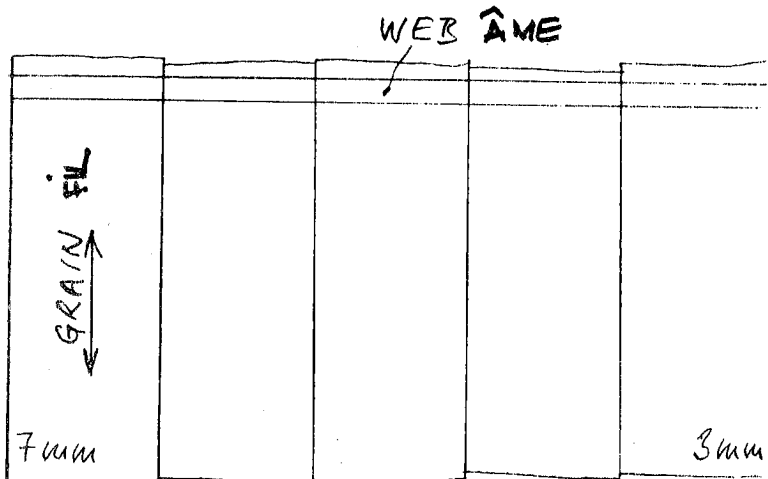

FIG 1
- glue together balsa sheets and sand them to produce a balsa sheet of about 50x20 cm, grain along the shorter side, the thickness changes from 7 mm on one end to 3 mm to other (fig. 1). It will do for a few pairs of wings.
Figure 1 illustrates the steps of the proposed algorithm. The diagrams show a sequence of node expansions starting from a single node 'a'. In each step, a node is expanded into two child nodes, creating a binary tree structure. The final state shows a tree with nodes labeled 'a', 'a1', 'a2', 'a21', 'a22', 'a221', 'a222', 'a2221', and 'a2222'.